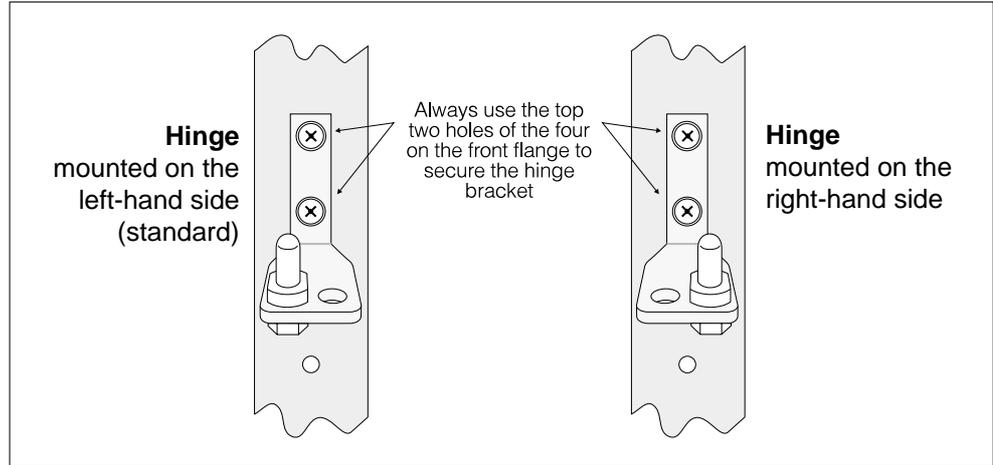

Fig.2-4: Hinge plate and hinge pin positions.
6. Remove the two hinge plates from the cabinet, move the hinge pin to the other hole in each plate, and refit the hinge plates to the opposite side of the cabinet (see Fig.2-4).